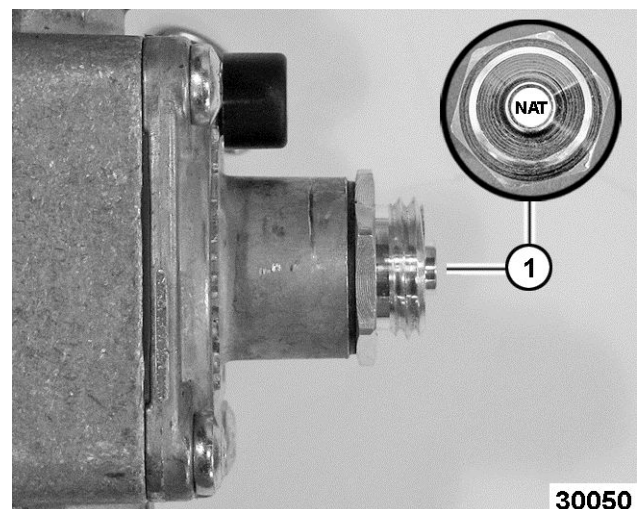

Fig. 79
- If the incoming pressure to the valve is between 6" WC and 14" for Natural gas and the manifold pressure is not maintaining 5" WC, and the cap (1, Fig. 79) is correctly positioned, replace the valve.
1, Fig. 79	Cap position for natural gas (stamped NAT).